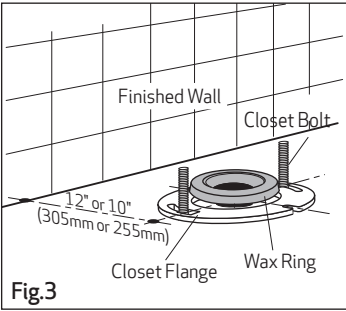

Fig.3
2. Position wax seal and offset adaptor onto closet bolts as detailed in Fig. 3 and 4, ensuring that the offset adaptor is positioned for a 10" (255mm) or 12" (305mm) rough in as shown in Fig.7.